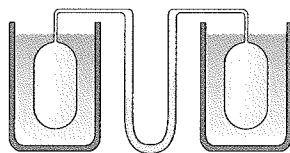

Fig. 18-29 Problem 3.
•3 A gas thermometer is constructed of two gas-containing bulbs, each in a water bath, as shown in Fig. 18-29. The pressure difference between the two bulbs is measured by a mercury manometer as shown. Appropriate reservoirs, not shown in the diagram, maintain constant gas volume in the two bulbs. There is no difference in pressure when both baths are at the triple point of water. The pressure difference is 120 torr when one bath is at the triple point and the other is at the boiling point of water. It is 90.0 torr when one bath is at the triple point and the other is at an unknown temperature to be measured. What is the unknown temperature?